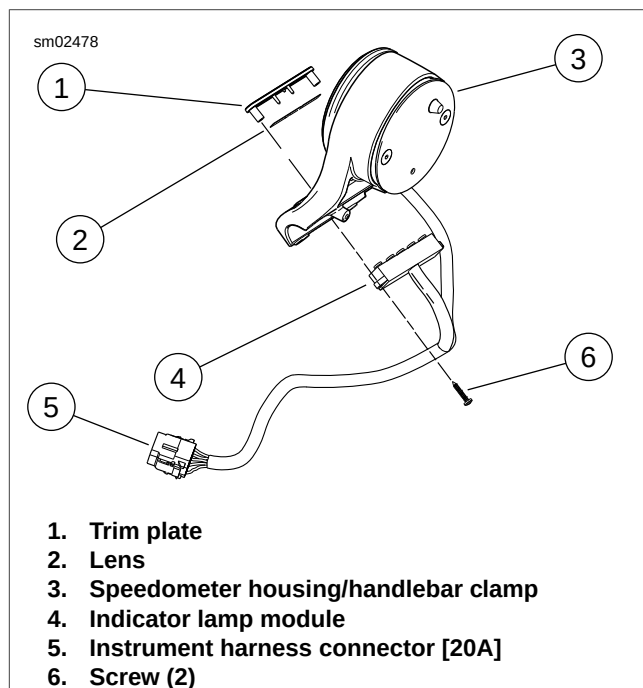

Figure 6-59. Indicator Lamps: XL 1200L/XL 1200N
2. See Figure 6-59. Holding speedometer housing/handlebar clamp (3), remove four screws securing housing/clamp assembly to handlebar risers.
3. Remove two screws (6) to separate indicator lamp module (4) from speedometer housing/handlebar clamp, trim plate (1) and lens (2).
8. See Figure 6-59. Assemble trim plate (1), lens (2) and indicator lamp module (4) onto speedometer housing/handlebar clamp (3). Secure with two screws (6).